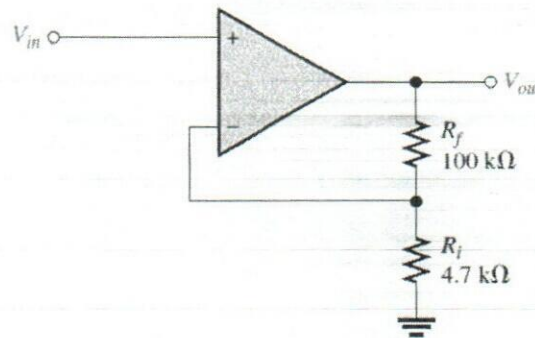

Figure 5.2
- [d] An Operational Amplifier circuit used to amplify the voltage output of a sensor is shown in **Figure 5.2**. [04]